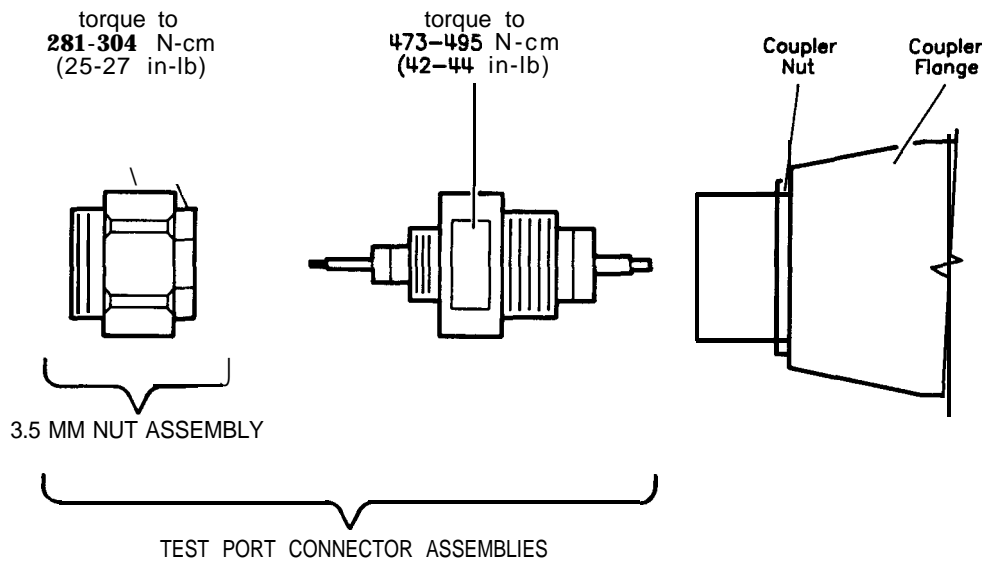

Figure 5-8. Exploded View of the 3.5 mm Port Connector
Refer to Figure 5-8 and the following text to replace or repair these 3.5 mm test port connectors.
2. Replace with a new test port connector assembly using a **5/8** inch torque wrench to the limits called out in Figure 5-8.
3. Torque with a **9/16** inch torque wrench to the limits set in Figure 5-8.